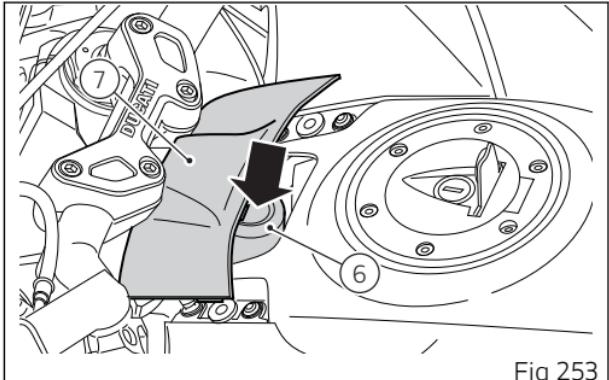
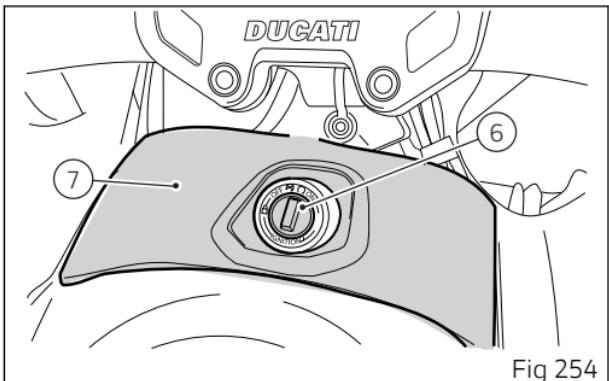
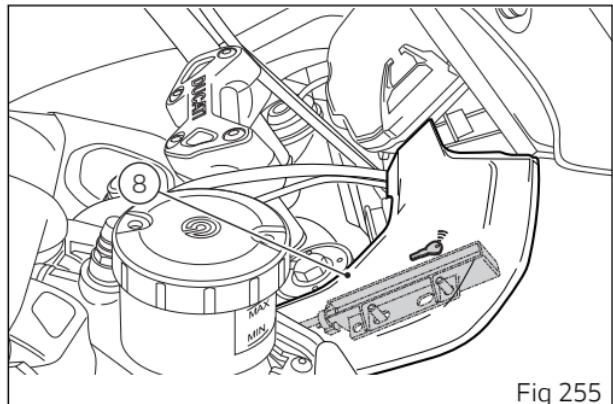

Fig 253
Fig 254
Fig 255
(Fig 253) indicates the position of the Hands Free unit (6), with protection lid (7) and (Fig 254) indicates the position of the Hands Free unit (6) for the US version, while (Fig 255) indicates the position of the antenna (8).